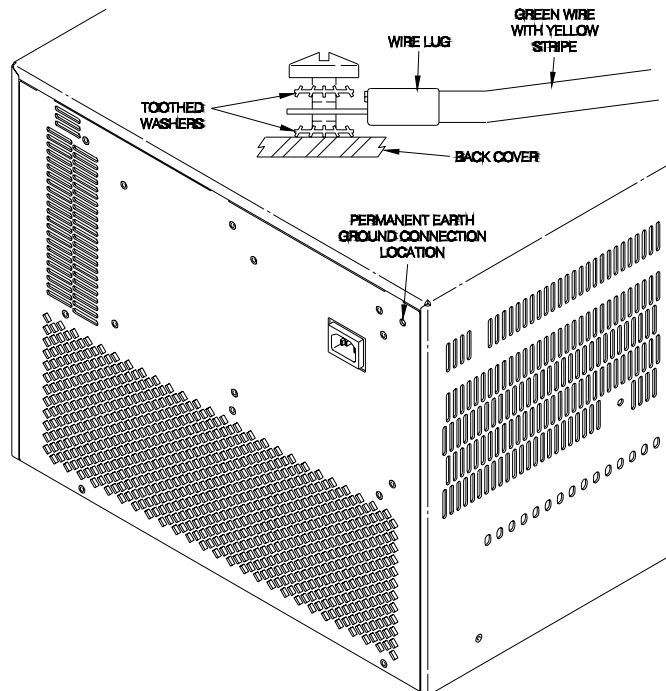

Figure 1-1. Connecting an HP E840xA Mainframe to a Permanent Earth Ground (HP E8403 shown, HP E8401 is similar)
1. Connect a 16 AWG (1.3 mm or larger) wire to the PEM nut shown in Figure 1-1. The wire must be green with a yellow stripe, or bare (no insulation). Use a m4 x 10 screw, grounding lug, and toothed washers (or toothed lug) as shown in the Figure.